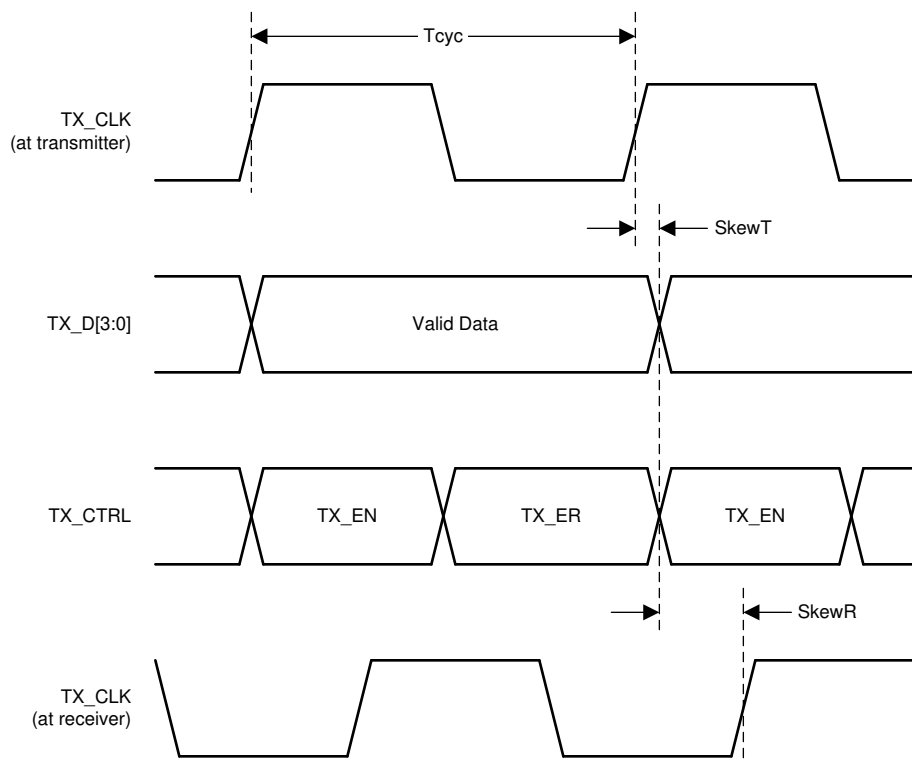

Figure 6-11. RGMII Transmit Timing
(1) Specified by production test, characterization or design.
(2) When operating without RGMII internal delay, the PCB design requires clocks to be routed such that an additional trace delay of greater than 1.5ns is added to the associated clock signal.
(3) Device can operate with or without internal delay.
(4) The duty cycle can be stretched or shrunk during speed changes or while transitioning to a received packet's clock domain as long as minimum duty cycle is not violated and stretching occurs for no more than three Tcyc of the lowest speed transitioned between.
(5) See Figure 6-11 and Figure 6-12.